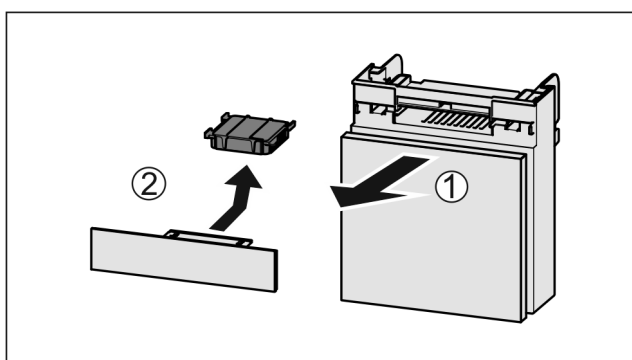

Fig. 170
- Pull out the compartment Fig. 170 (1).
- Remove the carbon filter Fig. 170 (2).